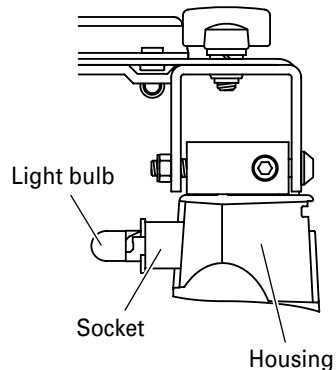

Fig. 21 <Top View>
- (3) Remove the light bulb from the socket (Fig. 21).
- When attaching the socket to the housing, align the socket with the hole of housing while watching the back of the socket shown in Fig. 21, and insert the socket until it lightly bumps against the housing.